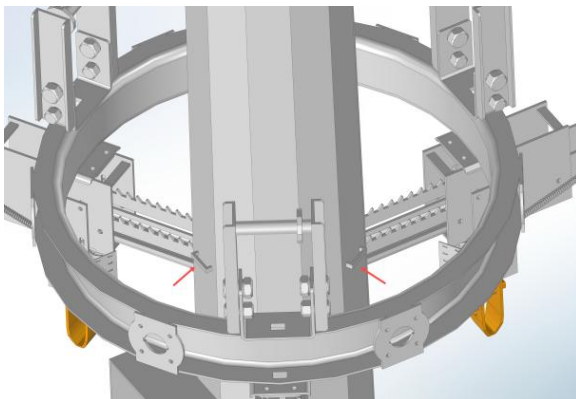
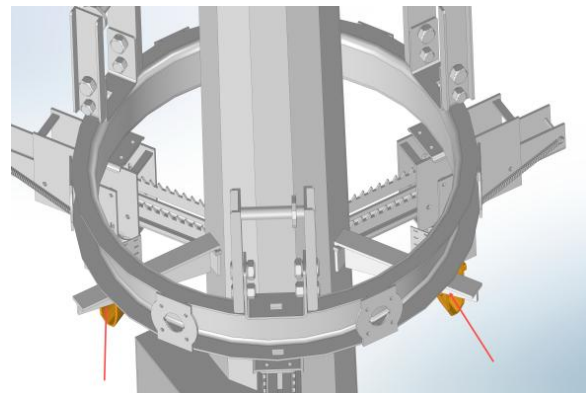

Figure 9
Figure 10
1. Raise the carriage above the access door. Fit the carriage support plates at the three positions indicated by the red arrows in Figure 9. Lower the carriage onto the supports, as shown in Figure 10.